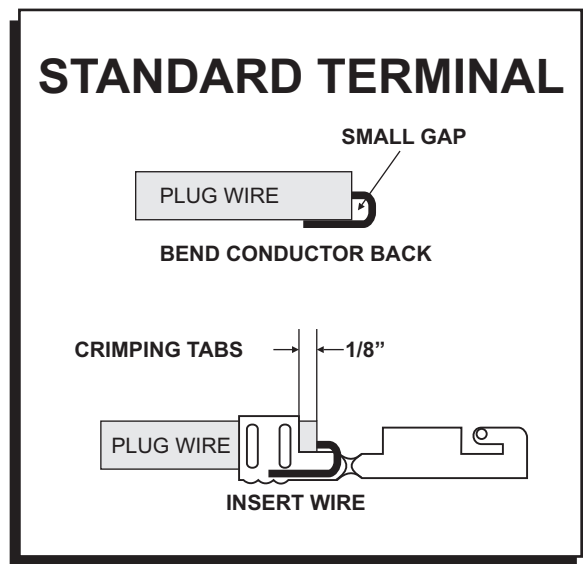

Figure 7 Positioning the Wire in the Terminal.
1. After stripping the sleeve, fold the conductor back along the wire insulation (Figure 7).